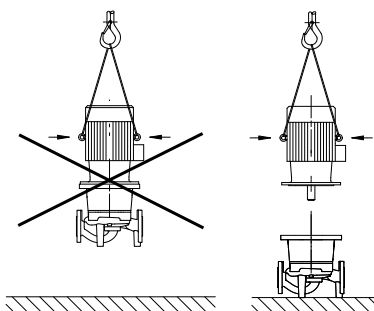

Fig. 20: Transporting the motor
- **Only use lifting eyes on the motor for carrying the weight of the motor and not for carrying the entire pump (Fig. 20).**